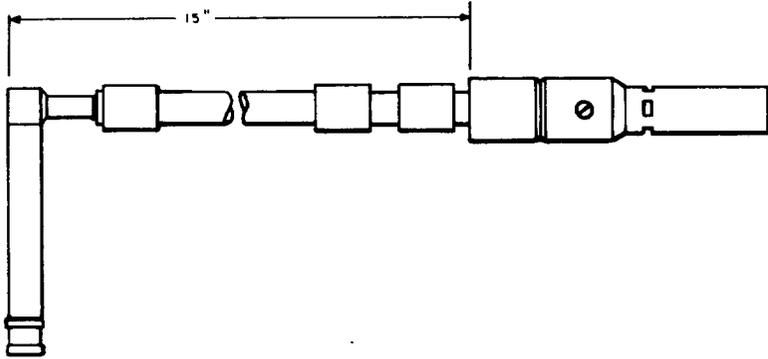

Fig. 3— Cord ED-50688-30
**ED-50688-30, G2 cords** (Fig. 3)